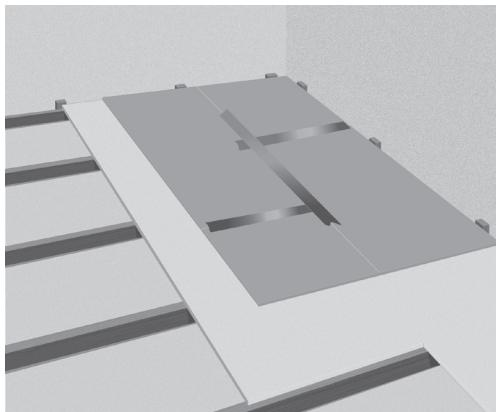

Fig. 4. Underlayment installation
**6.** Install the underlayment boards, e.g. Heatcom Reflector boards (Fig. 4). The entire subfloor should be covered. The underlayment boards should be installed in a tessellating pattern and the joints between the boards should be taped to secure their position. At footsteps in doorways, instead of the underlayment boards, a wooden block can be fitted to serve as more stable support to the flooring. The height of the block should be the